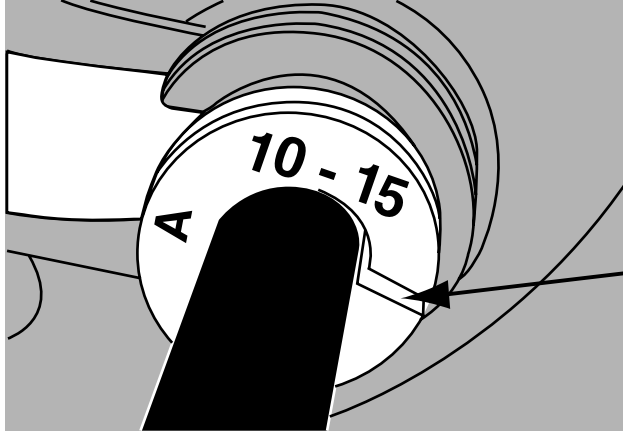

Figure 8
- Fit the split grommet over the cable's narrow end to the endplate entrance and align the split opposite to the wedge. (Figure 8)